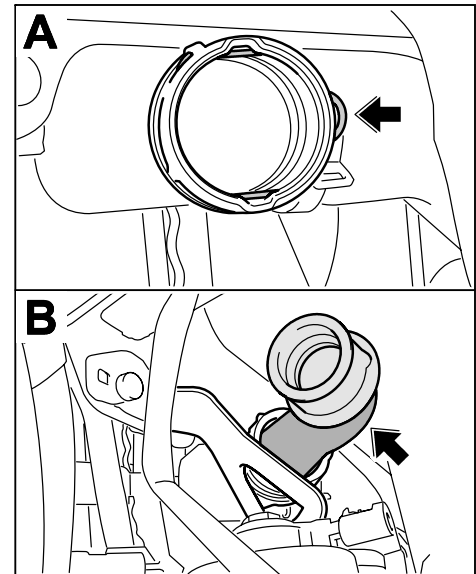

Figure 26
- 10.1.5 Fit retaining clips back in the Henn couplings for the two side radiators ⇒ *Figure 26 -A (right side)-*.
- 10.2.1 Clip coolant supply line (⇒ 997.106.638.03) ⇒ *Figure 26 -B-* and return line (⇒ 997.106.639.03) into the respective Henn couplings on the side radiators.